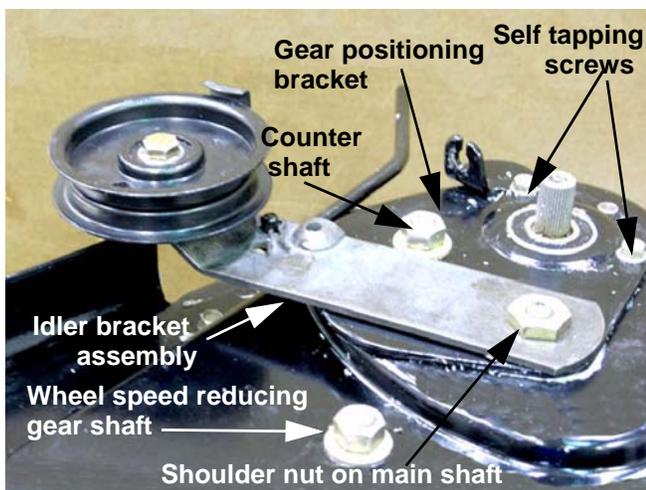

Figure 5.14
11. Remove the idler bracket assembly. See Figure 5.14.